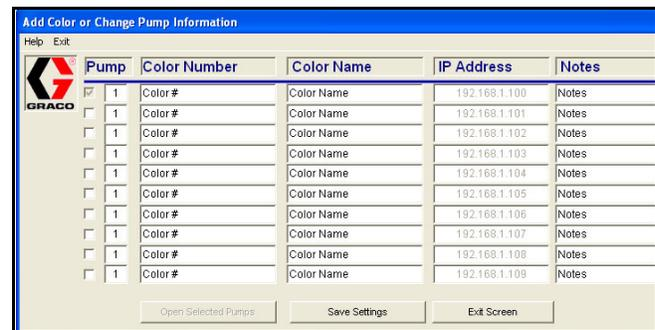

FIG. 20 Multiple VFD Connections
5. Enter the new pump information. See FIG. 20. Check the boxes next to each connected drive.